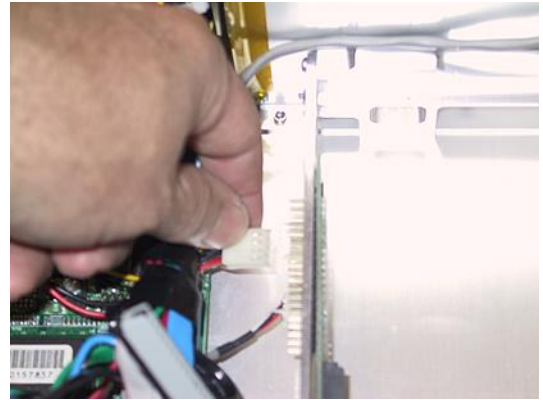

Figure 4-76
- 4) Remove the main power connector as illustrated in Figure 4-76 (release the latch with your finger or thumb nail while pulling ion the cable).